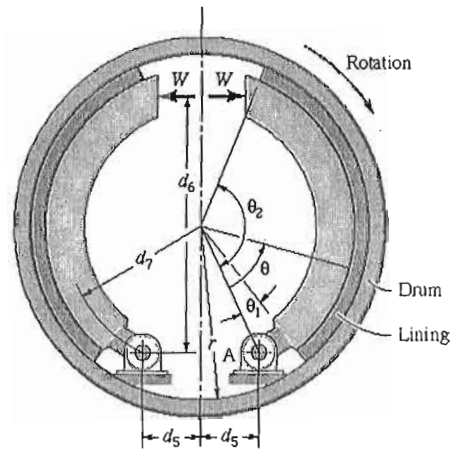

Fig. 2
2. a) Figure 2 shows a shoe brake. What kind of brake is it? With reference to the Figure 2, explain which one of them is self-energizing shoe. Is it possible to make both the shoes self-energizing?
- b) With the help of a neat sketch, if separately necessary, derive the expression for the frictional moment for an internal expanding brake shoe as shown in Fig. 2 where b , μ , p_{\max} and θ_{\max} are the face width, co-efficient of friction, maximum pressure and point of application of maximum pressure.
- c) An automotive type internal expanding double-shoe brake is shown in Fig. 2. The brake dimensions according to the figure are $\theta_1 = 10^\circ$, $\theta_2 = 120^\circ$, $r = 95 \text{ mm}$, $d_7 = 73 \text{ mm}$, $d_8 = 120 \text{ mm}$, and $d_5 = 30 \text{ mm}$. The brake shoe lining is 38 mm wide, and the maximum allowable contact pressure is 5 MPa. Calculate the braking torque and the fraction of the torque produced from